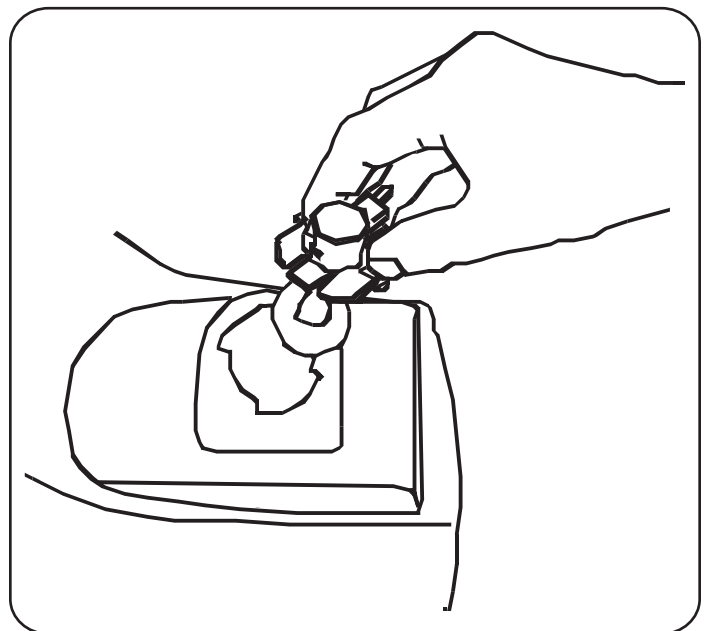

Figure 7
3. Rotate the socket assembly approximately a ¼-turn to align the socket tab with the reflector housing notch; then withdraw the bulb and socket assembly from the reflector housing. See Figure 7.
5. Align a locking post of the bulb base with the notch in the socket, then push the bulb inward and turn clockwise to lock. See Figure 7.